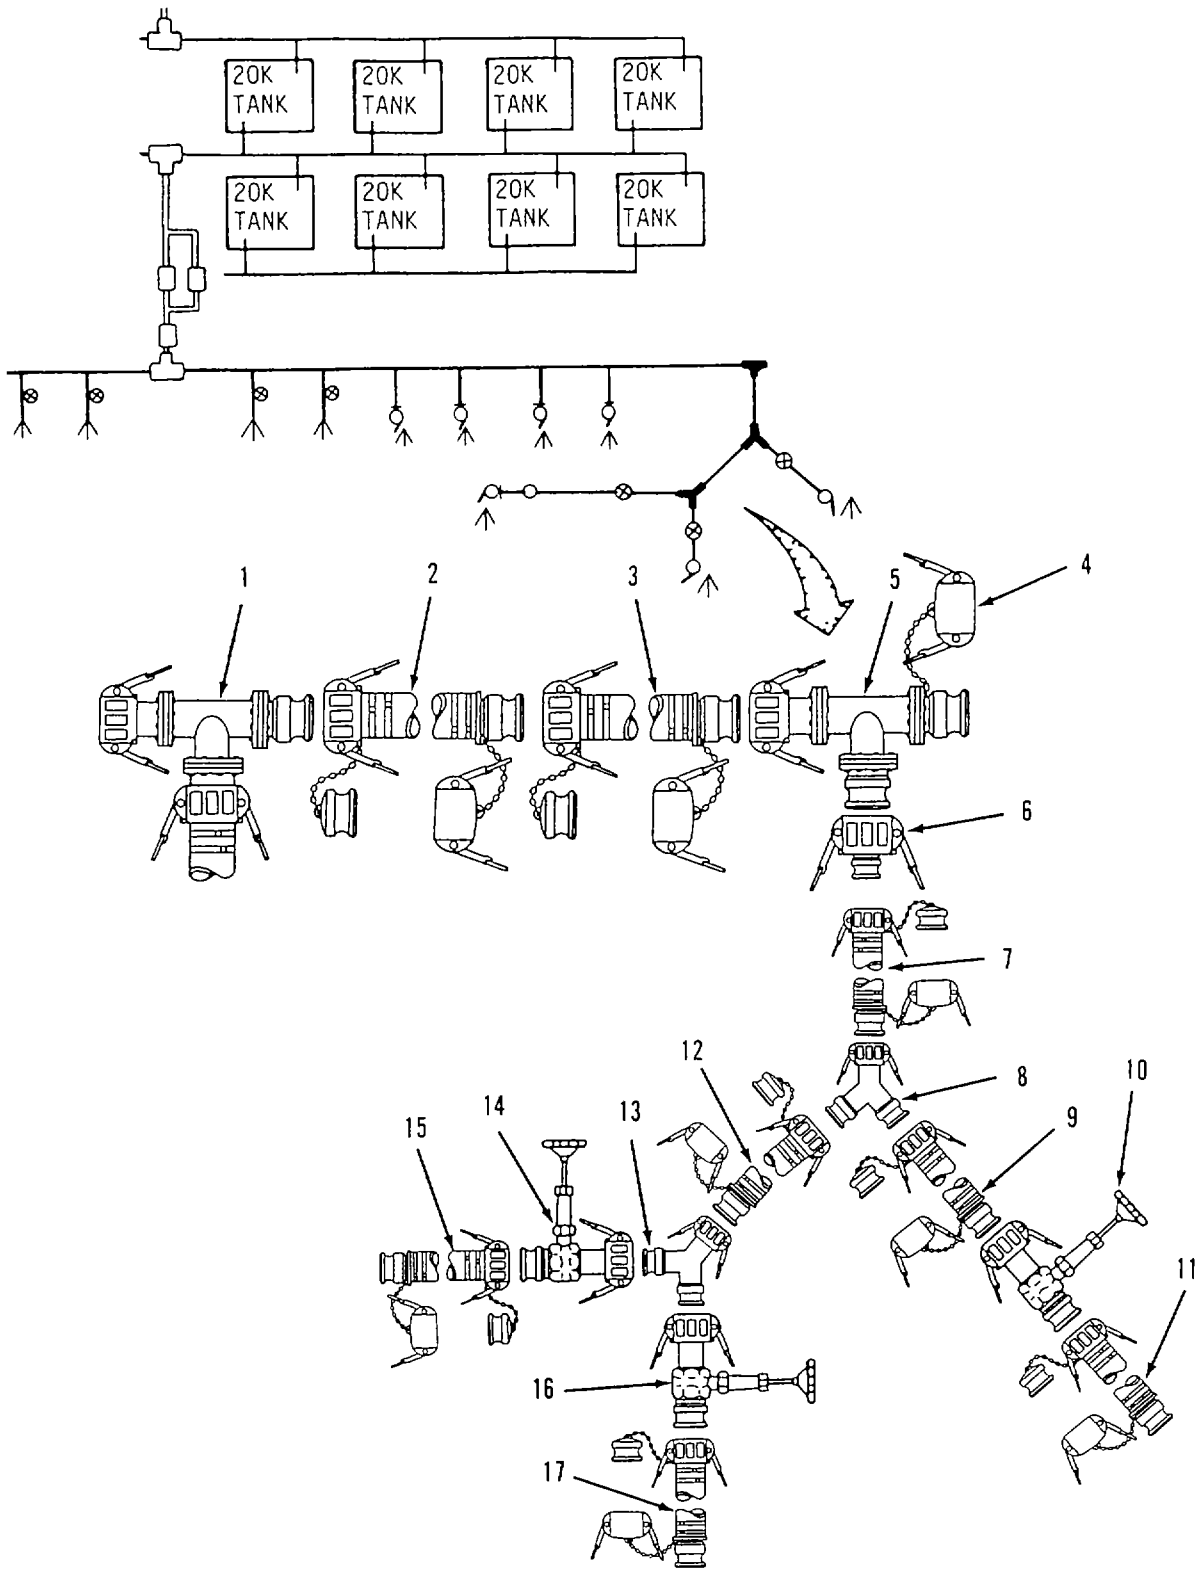

Figure 2-27. Bag Filler Connection Kit Disassembly.
- (4) Disconnect regulator (5) from 1 inch x 10 foot discharge hose (4).
- (5) Disconnect two 1 inch x 10 foot discharge hoses (3 and 4) from adapter (2).
- (6) Disconnect adapter (1-1/2 inch female x 1 inch male) (2) from 1-1/2 inch x 25 foot discharge hose (1) (from bag filler connection kit).
- (7) Repeat steps 1 through 6 for remaining hose and nozzle kits.
- (8) Drain and allow components to dry.
- (9) Install caps and plugs on couplings (para 2-10c).
- c. Disassemble Bag Filler Connection Kits. Refer to figure 2-27.